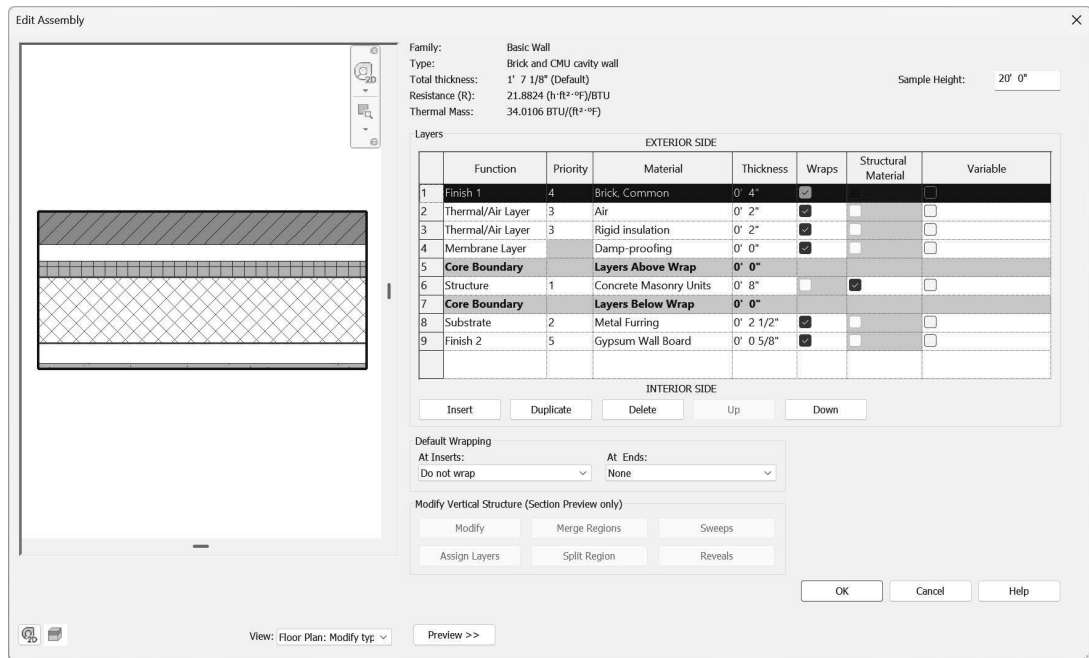

FIGURE 3-2.8 Edit Assembly for new wall type
15. Your dialog should look like **Figure 3-2.8**. Click **OK** to close all dialog boxes.